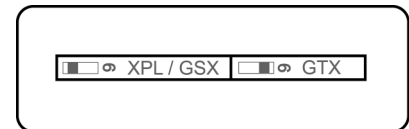

Figure 3
1. Set SwB position 6 according to Figure 3 to match your model of Sea-Doo.